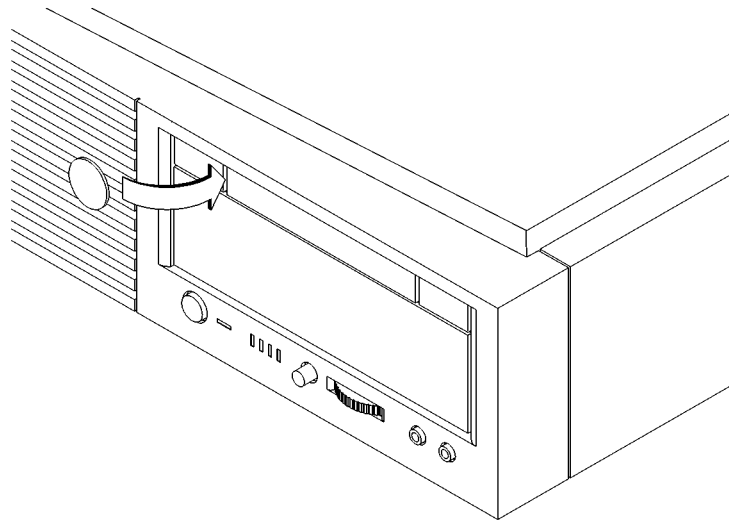

Figure 30
- 1 Remove the floppy filler panel from the top location of the bezel by using a coin or other flat, blunt, object to pry it from the front, as shown in Figure 30.